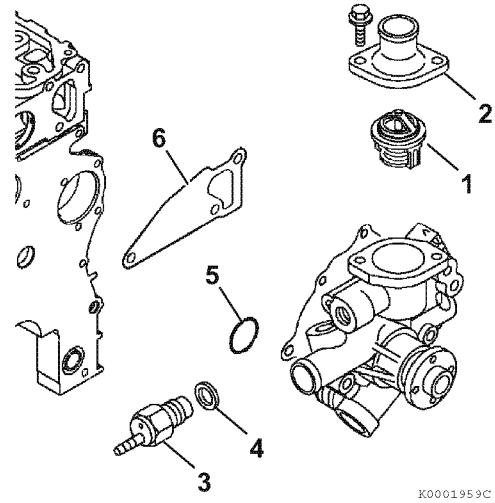

Figure 8-9
1. Reinstall the thermostat (Figure 8-9, (1)).
2. Reinstall the thermostat cover (Figure 8-9, (2)). Tighten the thermostat cover bolts.
3. Reinstall the temperature switch (Figure 8-9, (3)) and a new gasket (Figure 8-9, (4)).
4. Position the engine coolant pump on the engine and install a new gasket (Figure 8-9, (6)). Use a new special O-ring (Figure 8-9, (5)) on assembly between the engine coolant pump and the joint.